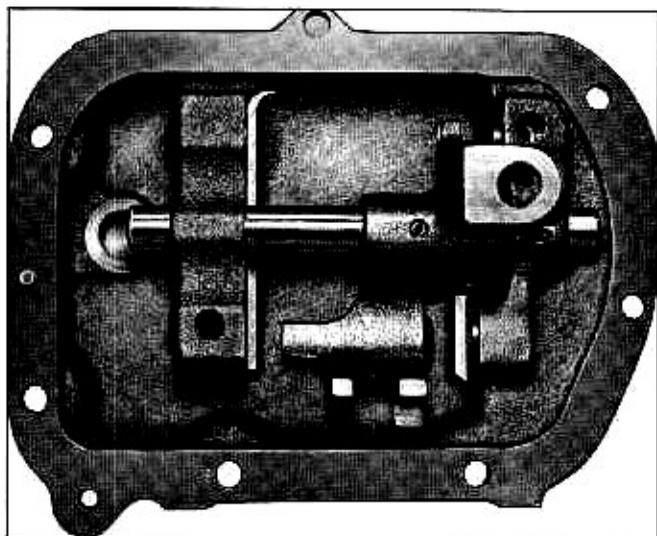

Fig. 8A—2-3 Shifter Head & Shaft Installed to Cover
6. Line up holes in head and shaft; insert roll pin. Both head attaching pins are the same (fig. 8A).